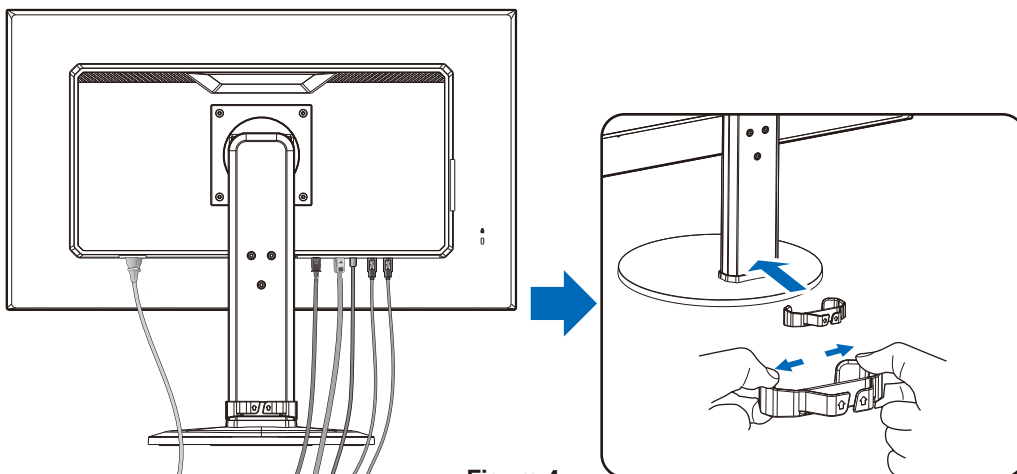

Figure 4
4. Place the cable holder onto the stand (Figure 4).